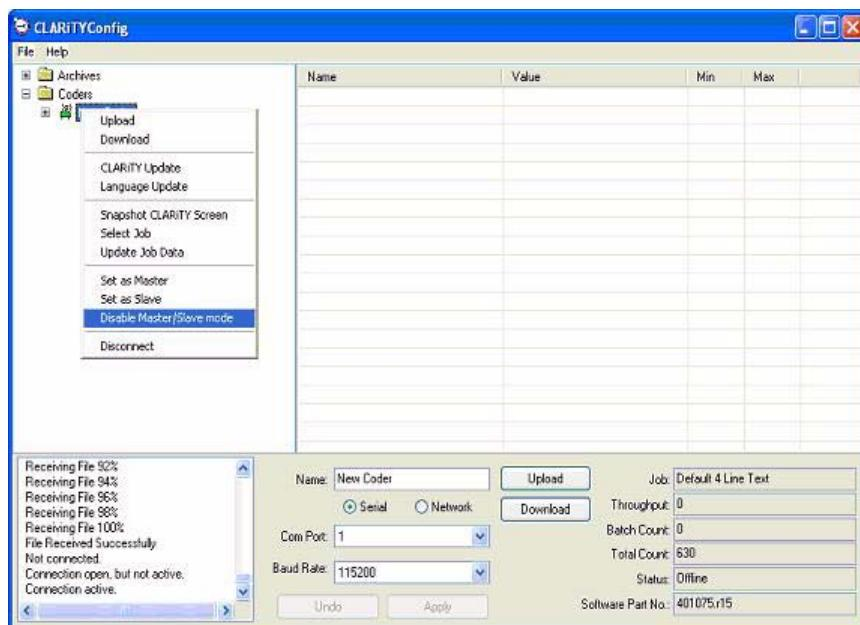

Figure 10-25: CLARiTY Config - Slave Disabling
- 2 Right click on the 'New Printer' icon when the icon turns 'green' and Select 'Disable Master/Slave mode', from the list as shown in Figure 10-25.